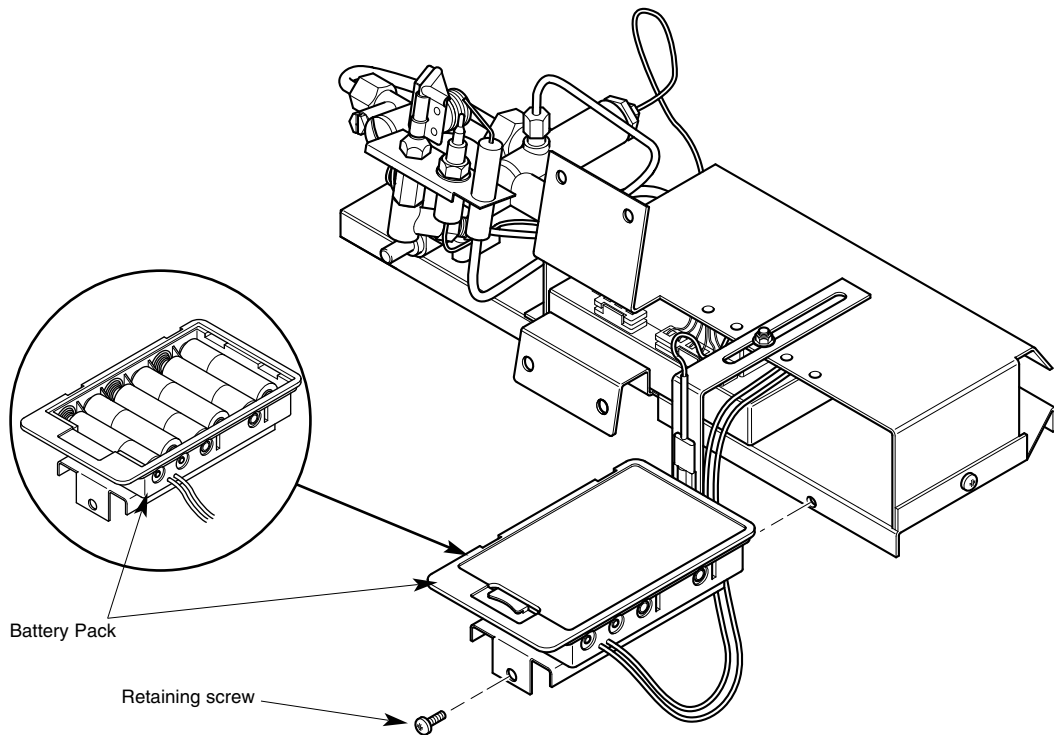

Fig. 13
**Note: When the batteries are becoming discharged, the fire will emit a continuous beeping sound. The battery pack is held in place with a single screw, remove this screw and the pack can slide out. Unclip the cover and replace the batteries with good quality alkaline or lithium - 6 x 1.5V AA (Fig.13 - Page 15).**
4. **Changing the batteries** - When the batteries are becoming discharged, the fire will emit a continuous beeping sound. The battery pack is held in place with a single screw, remove this screw and the pack can slide out. Unclip the cover and replace the batteries with good quality alkaline or lithium - 6 x 1.5V AA (Fig. 13).